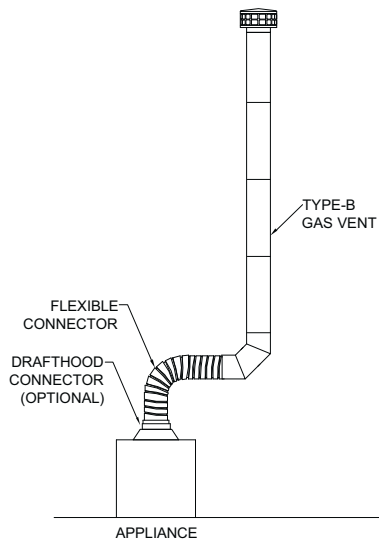

FIG. 4
- a. A single appliance (See FIG. 4) or